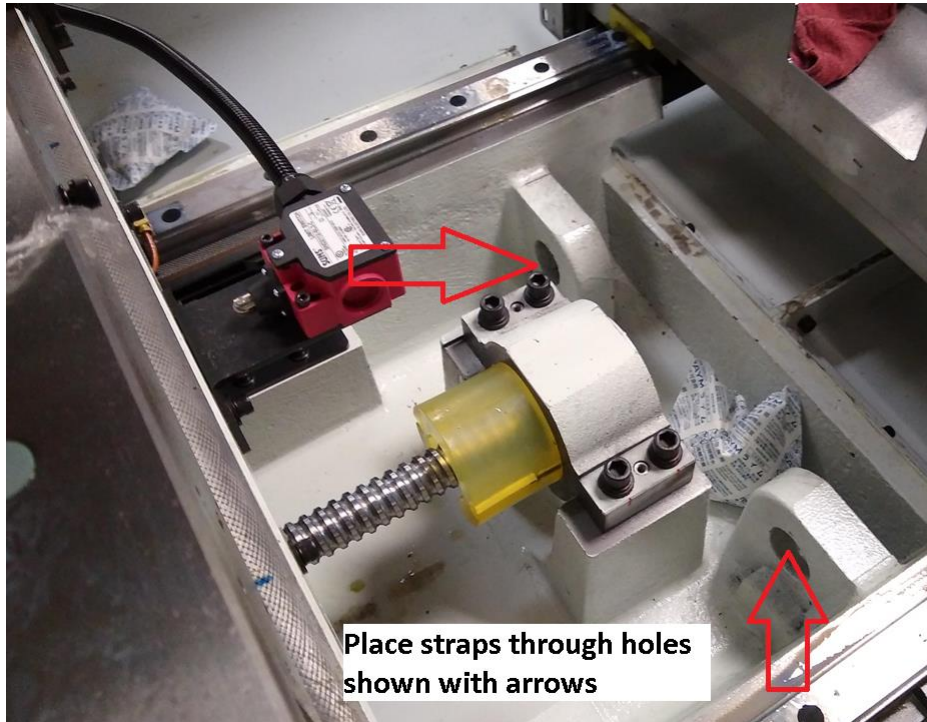

Figure 7 – Lifting Machine with Straps
- To move the machine while on the pallet, a 15000 lb. forklift with a 24" load center & 6' fork extensions is required. Depending on the load center or rating of the forklift, a larger forklift may be required. The center of gravity (CG) of the machine while on the pallet is ~56" from the edge of the pallet.
- The VMC may be lifted via 2 eye bolts on top of the column and 2 straps at the front of the Y axis as shown in figures 7 and 8.